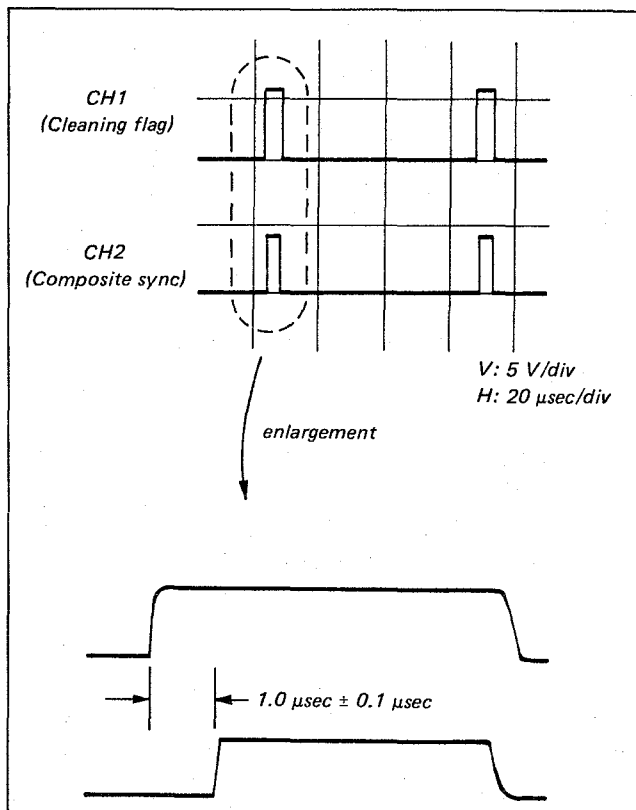

Fig. 5-32. Cleaning flag adjustment
- i) Adjust to $1.0\mu sec \pm 0.1\mu sec$ with RV006. (See Fig. 5-32.)